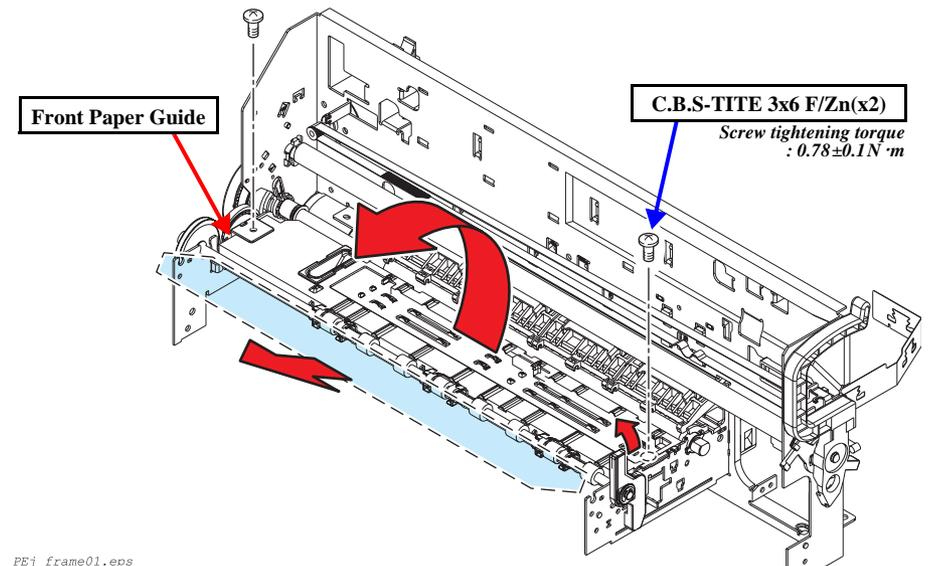

Figure 4-29. Front Paper Guide Removal
4. Remove left screw securing Front Paper Eject. (See Figure 4-29.)